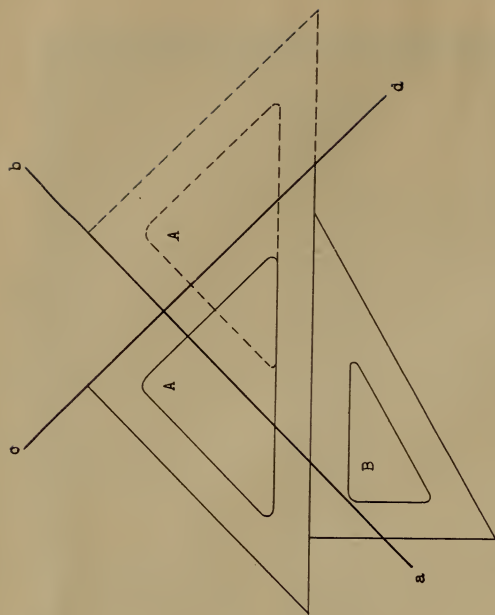

Fig. 6. Method of Drawing Perpendicular Lines.
*To draw a line perpendicular to a slanting line.* In Fig. 6 place the short edge of triangle *A* along line *ab*, perpendicular to which a line is to be drawn. Holding triangle *A* in place lay triangle *B* against it; slide triangle *A* to position *A'* and draw line *cd*, which will be perpendicular to line *ab*.